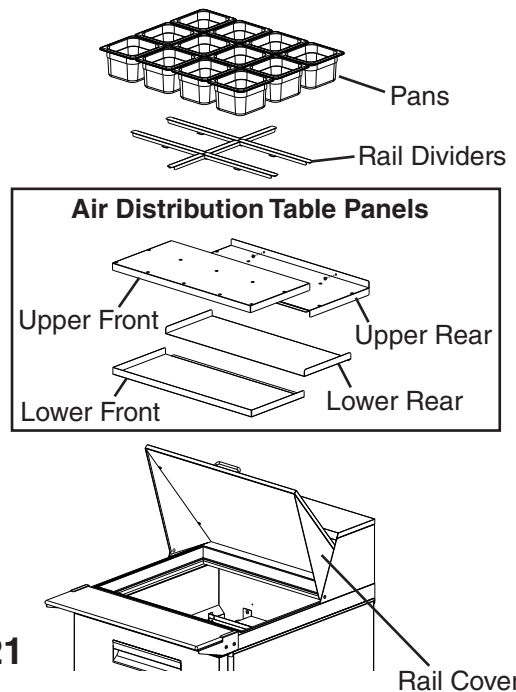

Fig. 21
- 3) Remove the pans and dividers from the rail. See Fig. 21. **WARNING! Support the rail cover when cleaning. Otherwise, the rail cover could close suddenly and cause injury.**